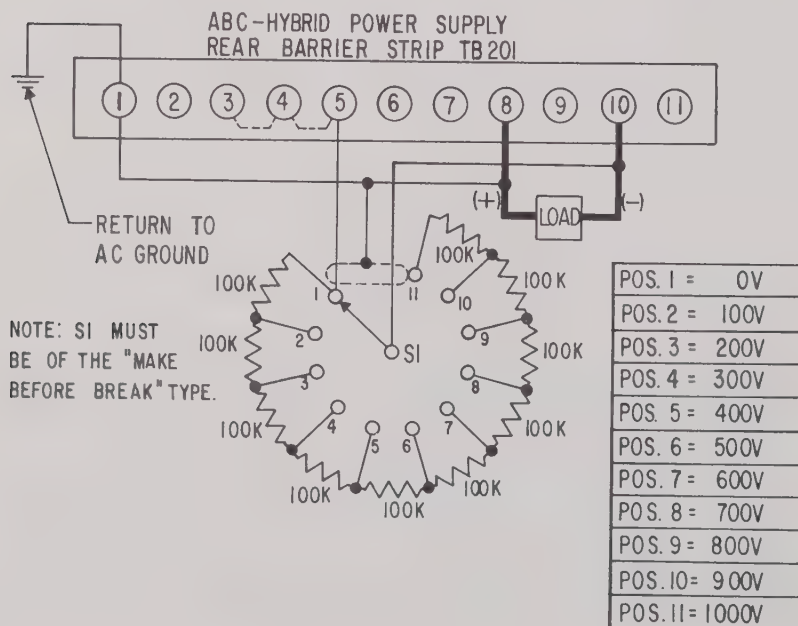

FIG. 3-4 FULL RANGE RESISTANCE PROGRAMMING
- 2) Remove links on rear barrier strip terminals (3)-(4)-(5). This disconnects the internal voltage control from the circuit. These links must be replaced and secured tightly when returning to normal operation.
- 3) Connect components as shown in FIG. 3-4. The switch may be a relay or similar device. The switching speed is limited only by the response time of the power supply which in turn is given by the charge and discharge time of the output capacitor.